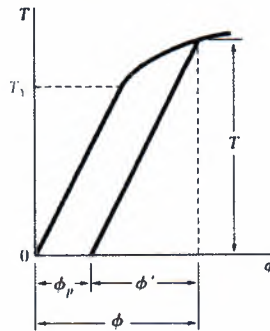

Figure 4
9. Let load a circular shaft beyond the onset of yield and unload it, refer the figure 4